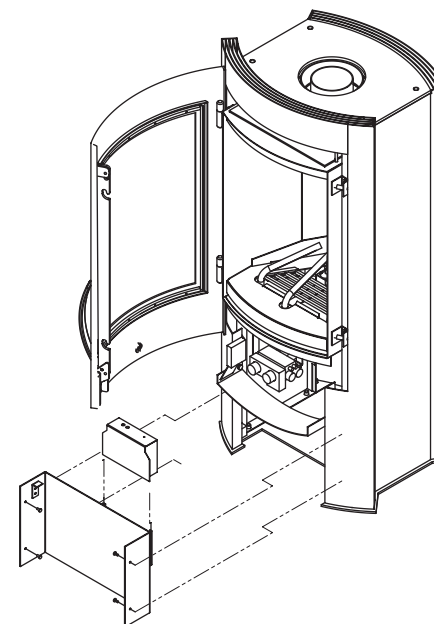

fig. 6
5. - Remove the cover plate (see fig 6). Unfasten the 4 screws on both sides, hold the ash pen tray horizontal while removing the cover plate.